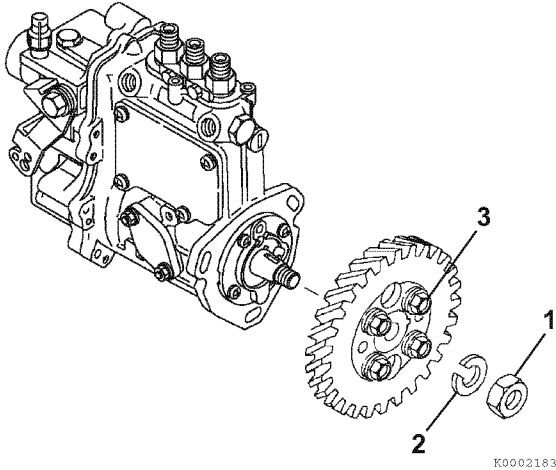

Figure 6-44
- Do not remove the fuel injection pump drive gear unless absolutely necessary due to damage to the gear or pump. Do not loosen or remove the four bolts (**Figure 6-44, (3)**) retaining pump drive gear to the hub. Only remove the nut (**Figure 6-44, (1)**) and washer (**Figure 6-44, (2)**), leaving the hub attached to the gear. Remove the pump drive gear and hub as an assembly using a gear puller.